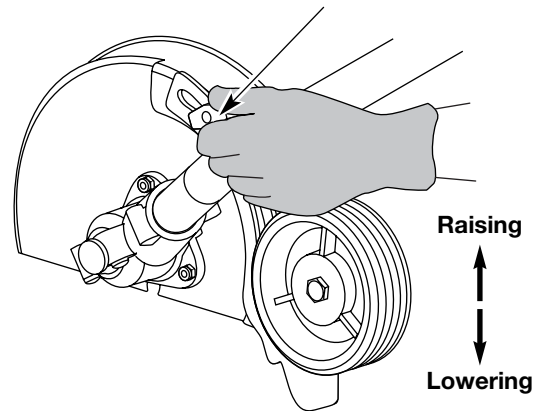

Fig. 6
1. Loosen the adjustment knob above the wheel (Fig 6).